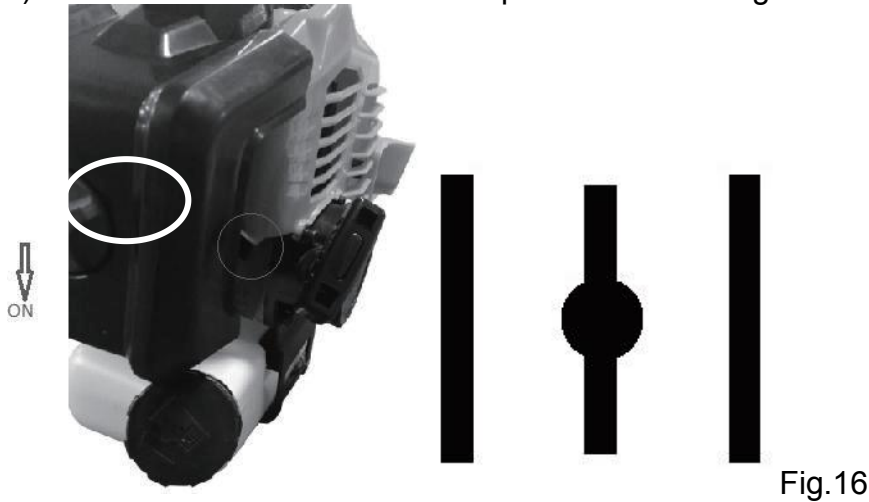

Fig.16
5) Turn the choke lever to the run position as the engine started.(Fig.16)